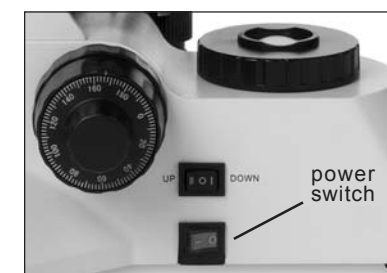

Figure 13
17. Check to see that the main power switch is in the off ("0") position (figure 13).